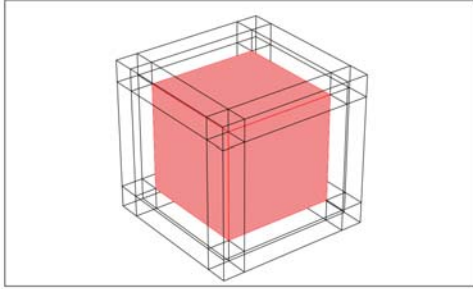

Figure 2-2: A cube surrounded by typical PML regions of the type “Cartesian.”
- *Cartesian*—PMLs absorbing in Cartesian coordinate directions. It is available in 2D and 3D (Figure 2-2).